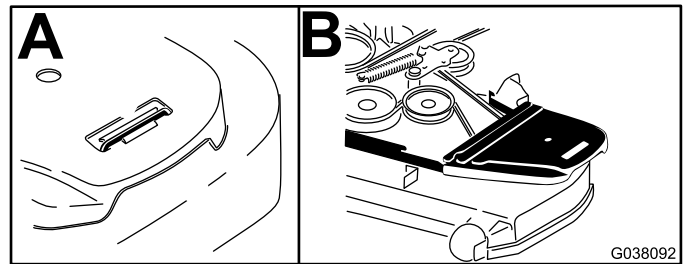

Figure 23
2. Remove the right belt cover (Figure 23).